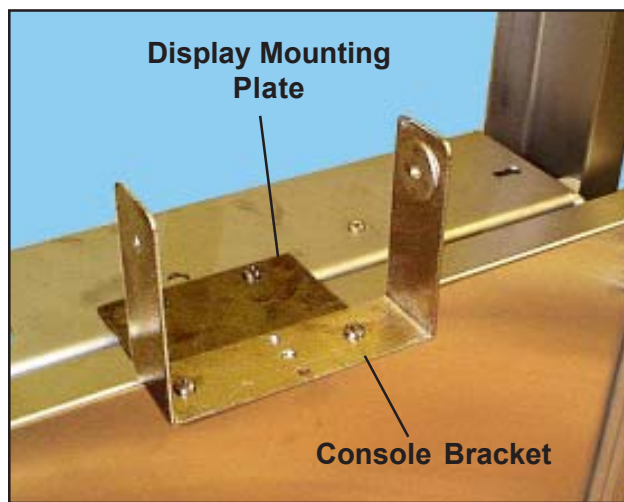

Figure 18. Mounting the Console Bracket on the Mounting Plate
2. With a Phillips screwdriver and a 3/8-in. wrench, mount the console bracket to the mounting plate with two 10-24 x .5-in. screws and locknuts (Figure 18).